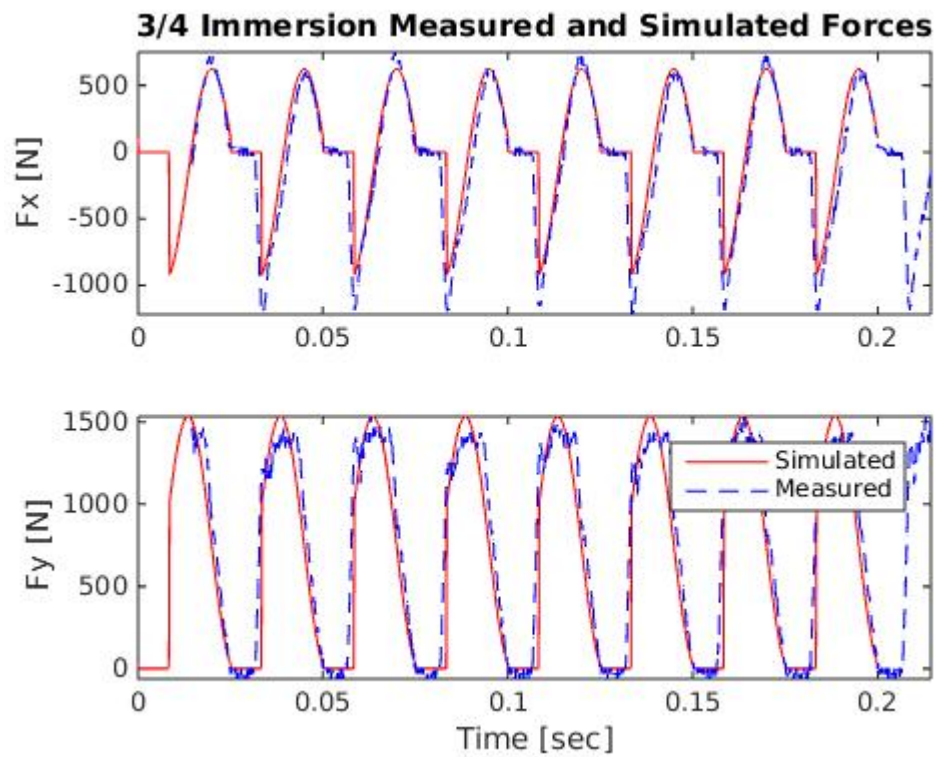

Figure 3: Three Quarter Immersion Measured and Simulated Forces
- Figure 3 is the graph of F_x and F_y of the three quarter immersion simulation